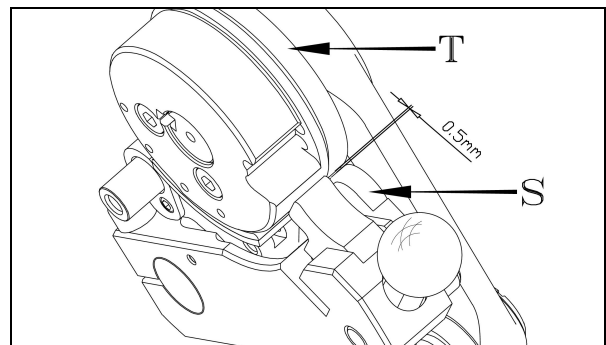
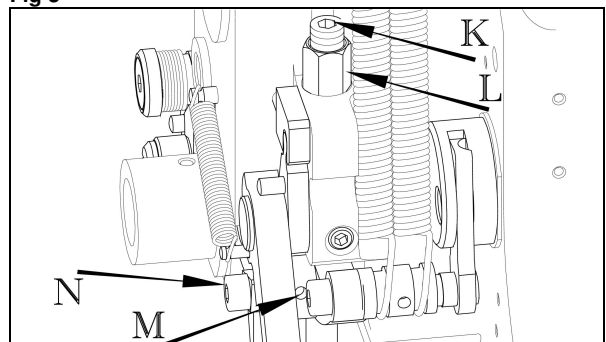

Fig 3
Fig 4
Referring to Fig 3, check the distance between the roller (S) and the ring (T). It should be 0.5mm. Loosen screw (N) on the stop bolt catch (M), Fig 4, and insert a pin in the hole of the block. Rotate the stop bolt catch to obtain the clearance between the roller (S) and the ring (T).
< Loosen screws (D) in Fig 3. Do not tighten until adjustment 12 on the next page. Turn the machine to the eye position for easier access to the screws >